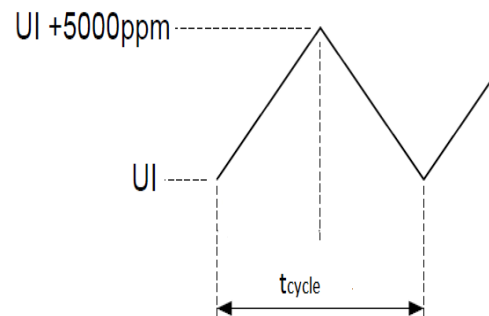

Figure 62 Measuring Modulation Rate
- Measure the modulation rate, modulation rate is  $1/t_{cycle}$ .  $t_{cycle}$  is defined as shown in Figure 62.